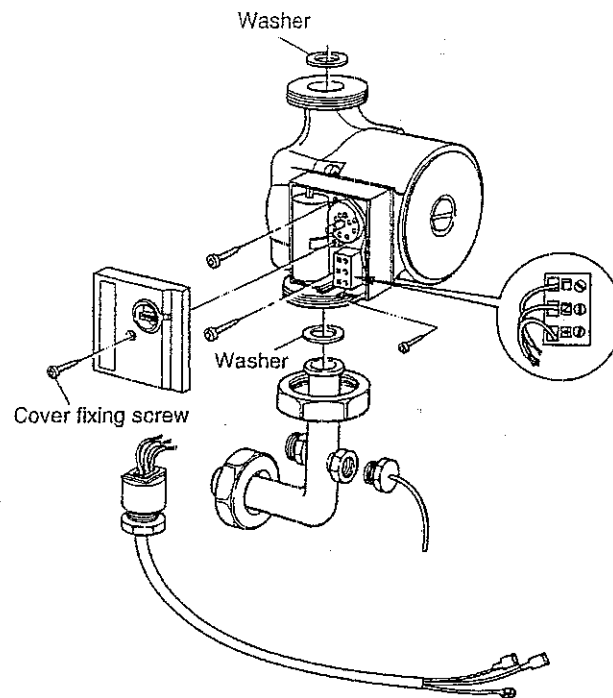

Fig 40
- c) Remove electrical cover on pump, one screw (fig. 40). (Rotate pump to remove cover).
- g) Re-assemble in reverse order (fig. 40).